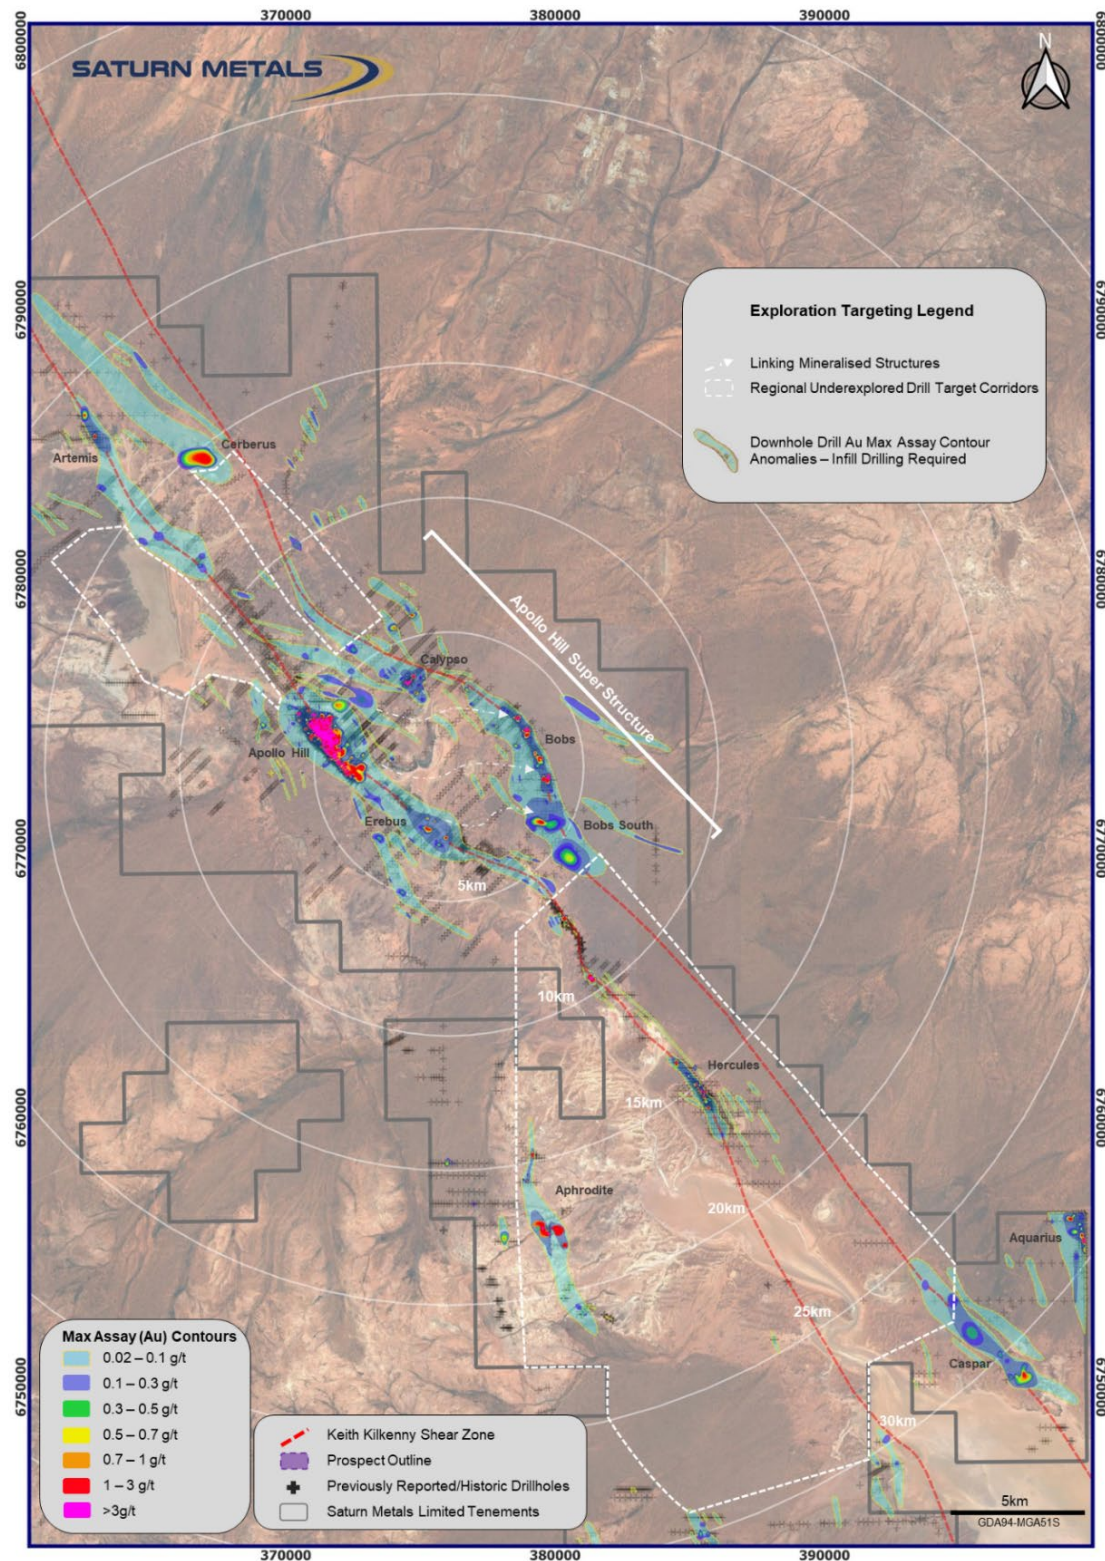

Figure 1 – Regional gold anomalism, target zones and an outline of Saturn’s large strategic land package.
- A 25,000m regional Aircore (AC) drilling program is underway across underexplored parts of the 1,000km² Apollo Hill Gold Project.
- Find accretive satellite prospects to the Apollo Hill Gold Deposit following on from last year's success at Prospects such as Hercules (*ASX Announcement 13 September 2022* and location on Figure 1).
- Develop the 40km long and 10km wide drill result gold anomaly emerging on the gold prospective Apollo Hill Super Structure (Figure1).
A first pass wide spaced drill pattern is initially being employed across the package to maximise coverage and look for major new gold systems that warrant follow up drilling. Work is focussing within a 30km radius of the current Apollo Hill Resource as we work towards developing additional satellite prospects to add to and further develop the project. A similar strategy employed last year in new areas identified the Hercules, Artemis and Aquarius gold systems (Figure 1) with respective intersections including:
Figure 1 shows, regional gold anomalism, target zones and Saturn’s large strategic land package in plan view.